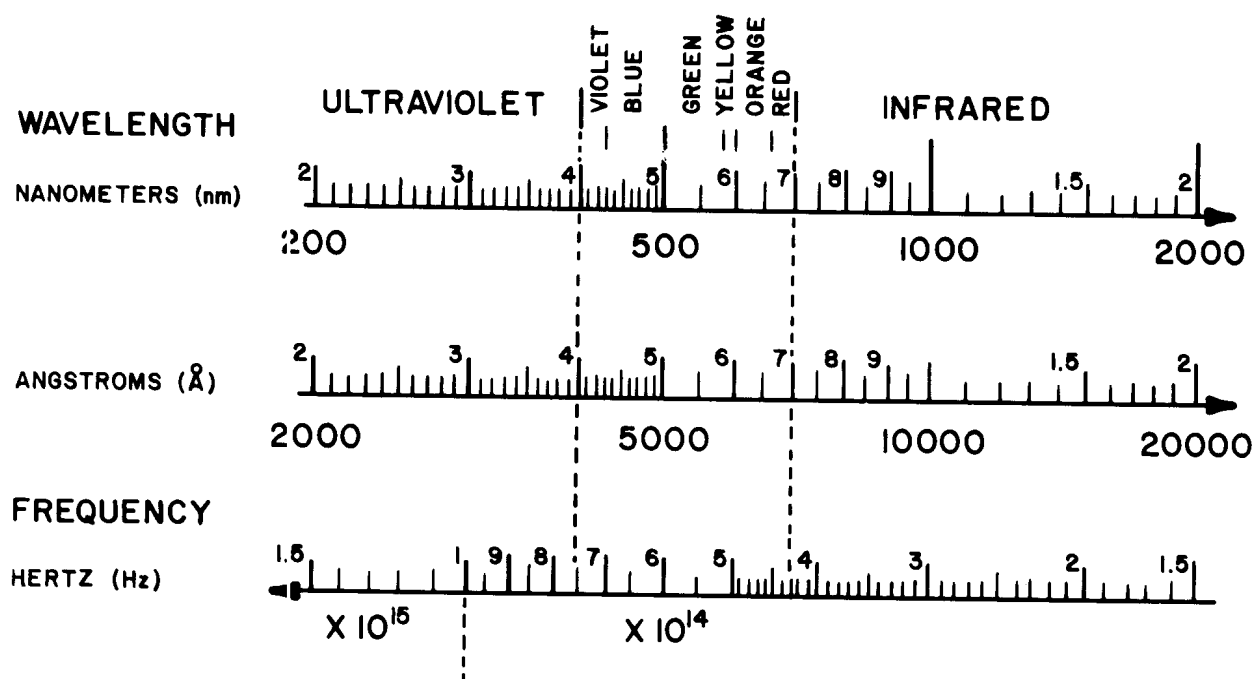
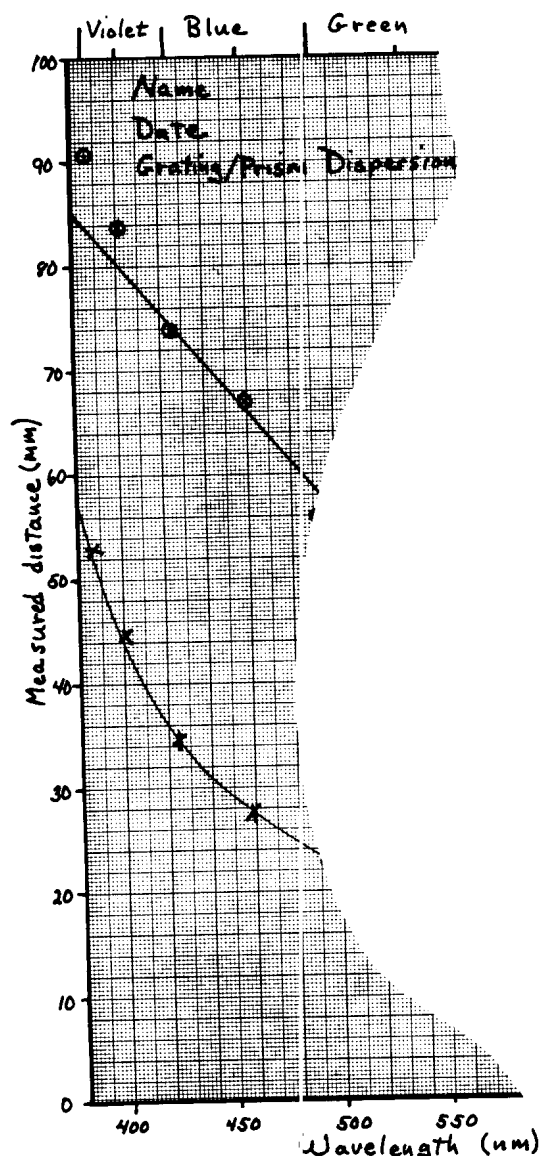

Figure 44. Wavelength-frequency conversion chart.
Figure 45. Typical data for two dispersive elements different from those you used.
Figure 44 gives the wavelengths and frequencies for some types of electromagnetic radiation.
The first step in analyzing your data is to graph it. You will graph the observed locations of each color on one axis and the wavelength of the color on the other. Hopefully, the resulting curves will reveal some simple relationship between location and color. An example is shown in Figure 45. The data are similar to yours, but the dispersive elements are different.
1. *Make a graph* like that shown in Figure 45. Lay out wavelengths at the bottom on an equally spaced (linear) scale. At the top, lay out the corresponding color boundaries and centers, as given in Figure 44 or in Table I on page 19.
Since the slope of your curves can be determined you have a quantitative measure of dispersion. That is, the slope, and thus the dispersion, can be calculated in *millimeters per nanometer*. For example in Figure 45, the upper curve is a straight line. In the wavelength interval from 380 nm to 460 nm, the measured distance interval is from 85 mm to 66 mm. Therefore, the slope (and dispersion) is: